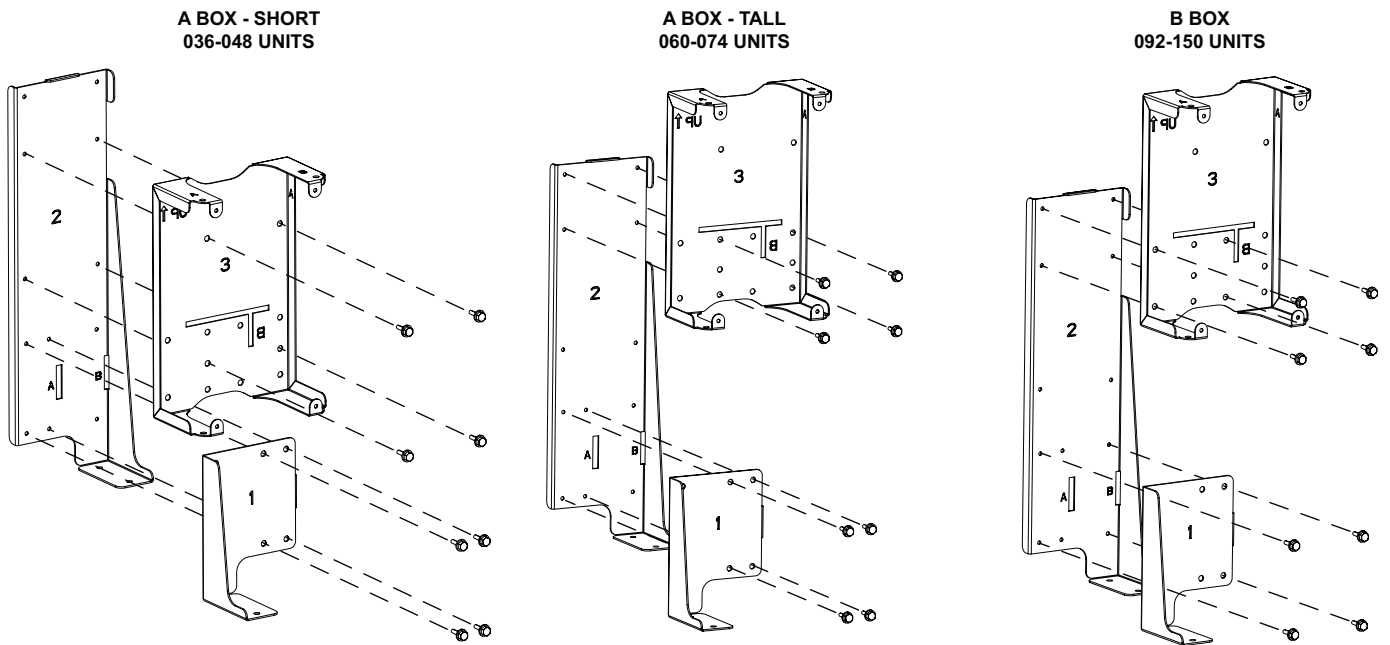
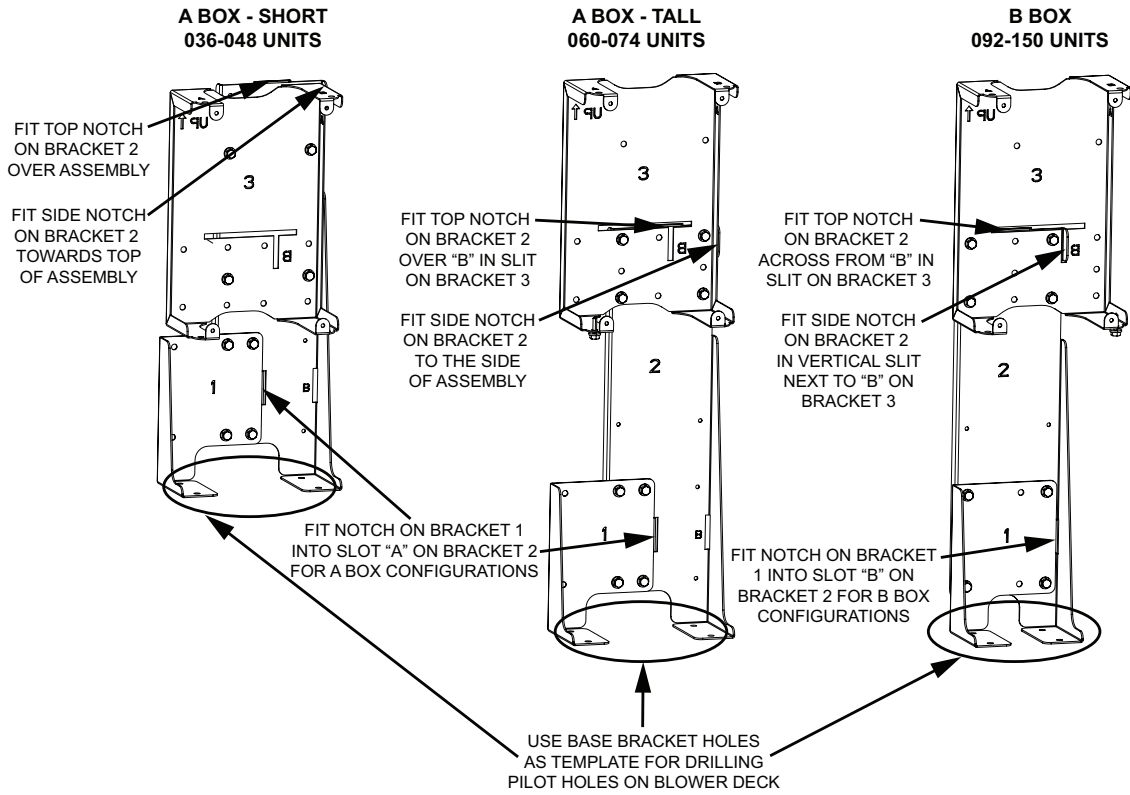

FIGURE 7
FIGURE 8
- 1 - Assemble supply smoke detector main bracket based on configurations below. See FIGURE 7, FIGURE 8, and FIGURE 9.